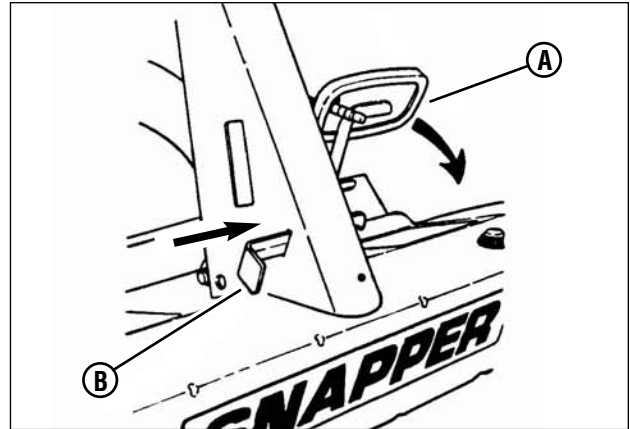

Figure 8: Setting the park brake
- Press the Clutch/Brake Pedal (A, Figure 8) all the way down, move the park brake latch (B) over, and release the clutch/brake pedal to set the park brake.